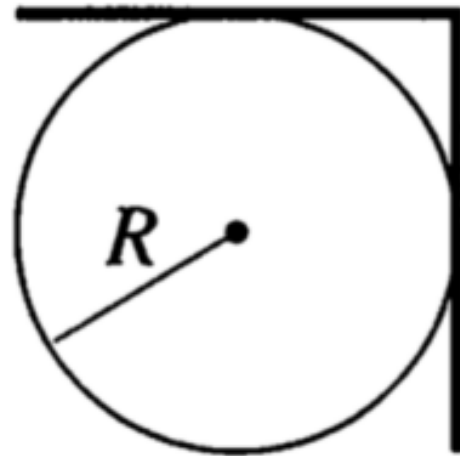

Figure 6: Plate on cylinder
13. A plate, bent at right angles along its center line, is placed on a horizontal fixed cylinder of radius R as shown in Fig. 6. How large does the coefficient of static friction between the cylinder and plate need to be if the plate is not to slip off the cylinder? (PPP 44, through Kevin Zhou)